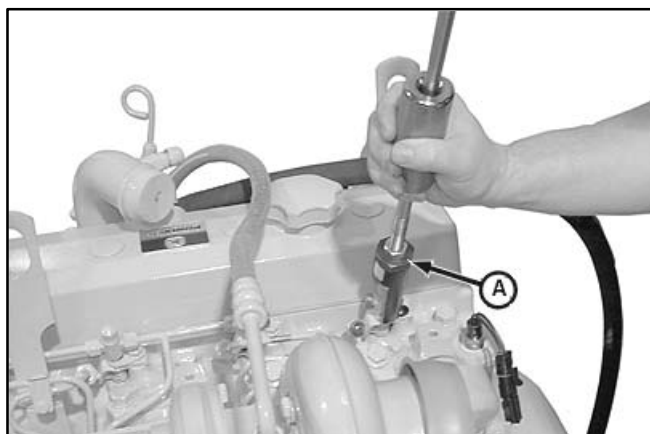

FIGURE 7-16. REMOVING INJECTION NOZZLE
4. Pull the injection nozzle out of the cylinder head using nozzle pulling tool JDG1515-1, (A) in Figure 7-16.